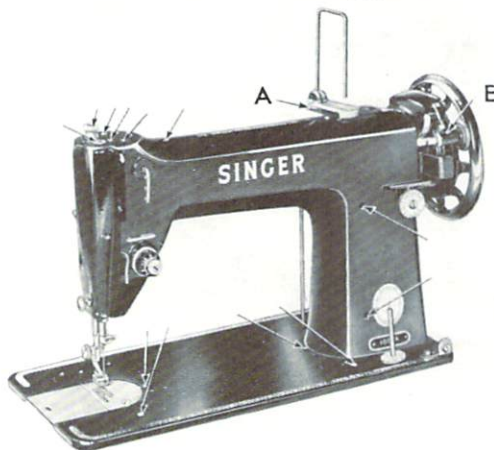

Fig. 2. Front View—Oiling Points
- Lift and remove arm top cover A, Fig. 2.
- Open gear case, Fig. 2.
Occasionally apply a drop of oil to the bobbin winder at E, Fig. 2.